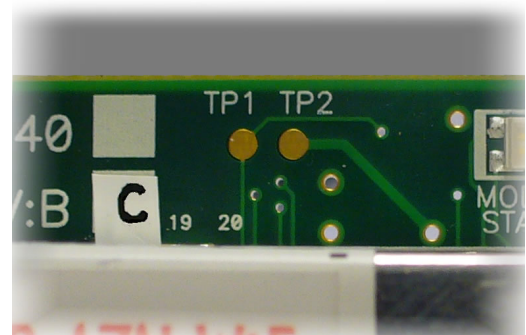

Figure 10: TP1 and TP2
1. With the inverter unpowered, locate test points TP1 and TP2 on the top side of the interface card, and short them together with a tool such as a flat-bladed screwdriver (refer to Figure 10).